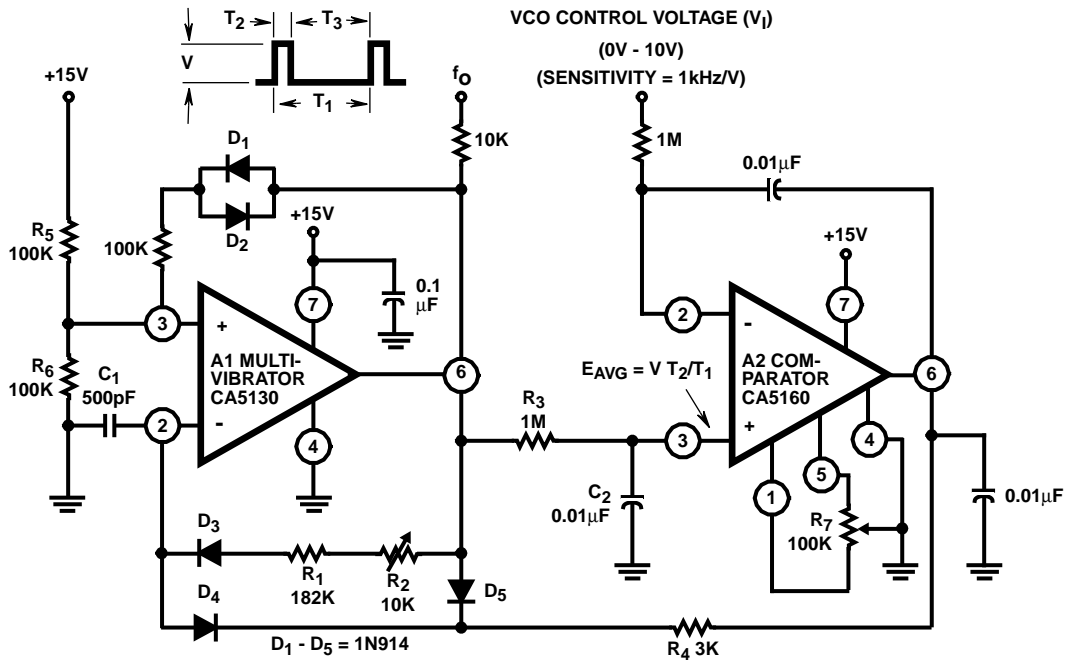

FIGURE 10. VOLTAGE CONTROLLED OSCILLATOR
The circuit diagram of a precision voltage-controlled oscillator is shown in Figure 10. The oscillator operates with a tracking error on the order of 0.02% and a temperature coefficient of 0.01%/°C. A multivibrator (A₁) generates pulses of constant amplitude (V) and width (T₂). Since the output (Terminal 6) of A₁ (a CA5130) can swing within about 10mV of either supply-rail, the output pulse amplitude (V) is essentially equal to V+. The average output voltage ($E_{AVG} = V T_2/T_1$) is applied to the non-inverting input terminal of comparator A₂ (a CA5160) via an integrating network R₃, C₂. Comparator A₂ operates to establish circuit conditions such that $E_{AVG} = V_1$. This circuit condition is accomplished by feeding an output signal from Terminal 6 of A₂ through R₄, D₄ to the inverting terminal (Terminal 2) of A₁, thereby adjusting the multivibrator interval, T₃.